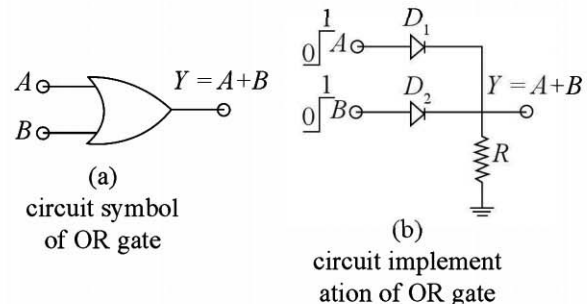

Fig. 19.18
**OR gate** A positive logic OR gate assumes a high state if any of the input is high. Fig. 19.18 (a) shows circuit symbol and Fig. 19.18 (b) shows the circuit implementation of OR using switching diodes. Operation symbols of OR is '+'.